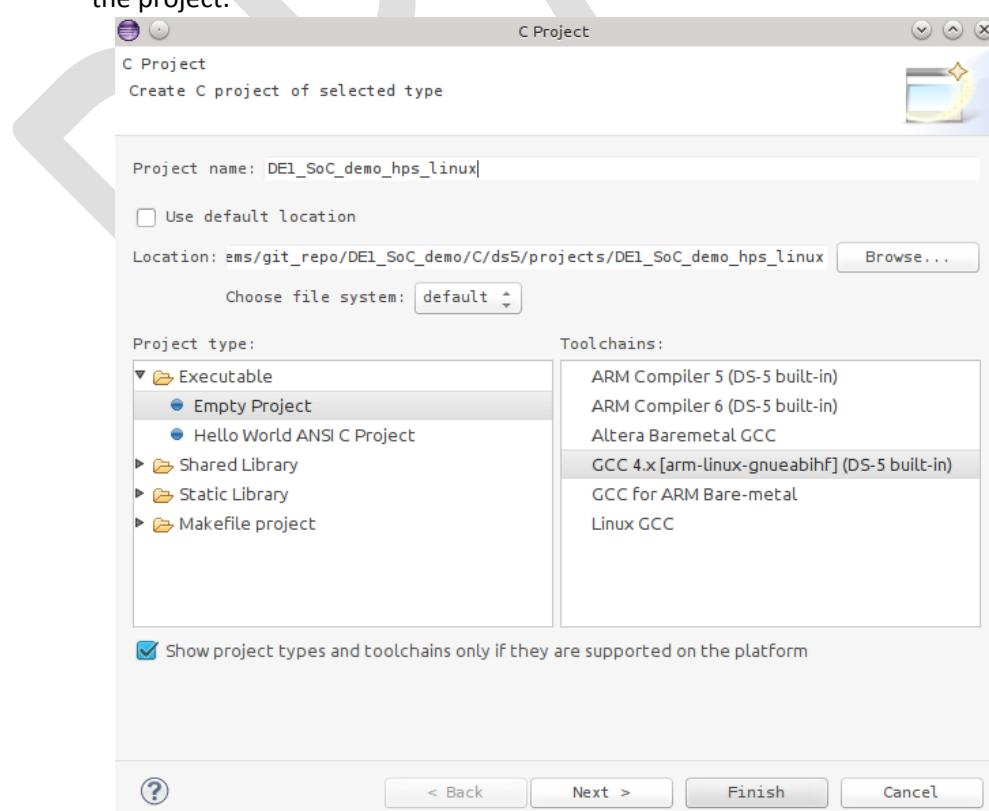

Figure 8-42. New C Project Dialog
- f. You should have something similar to Figure 8-42. Then, press the “Finish” button to create the project.